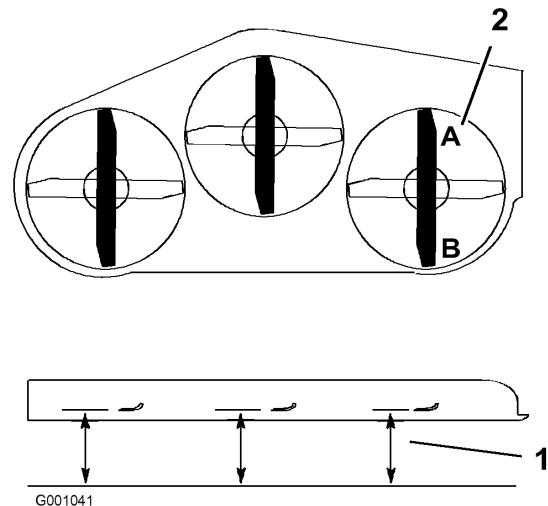

Figure 72
1. Position the right blade front-to-rear (Figure 72).
2. Measure the right blade at the **A** location, from a level surface to the cutting edge of the blade tip (Figure 72).
4. Measure the right blade at the **B** location, from a level surface to the cutting edge of the blade tip (Figure 72).
6. The mower blade should be a 1/4 to 3/8 inch (6 to 10 mm) lower at position **A** than at position **B** (Figure 72). If it is not correct, proceed to the following steps.